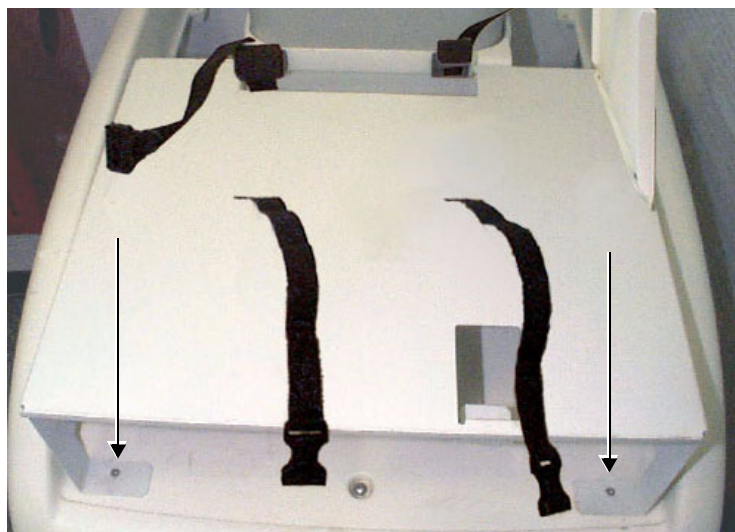

Figure 8-136 Shelf Fastened to Top Cover
- 10) Place the shelf on the top surface, with its two legs facing the front, and the stoppers (located on top of the shelf) facing the far end. Fasten the shelf to the top surface, using the screws removed in step 8, as shown in Figure 8-136 below.
- 11.) Route the end of one of the top surface securing belts down through the narrow *left* slot in the shelf (closest to the front), then thread it below the shelf, *backwards* and *upwards* through the slot at the rear of the shelf. Leave the opposite end of the belt (with the plastic buckle [female end] attached) dangling towards the front, as shown in Figure 8-135 and Figure 8-136 on page 8-149.